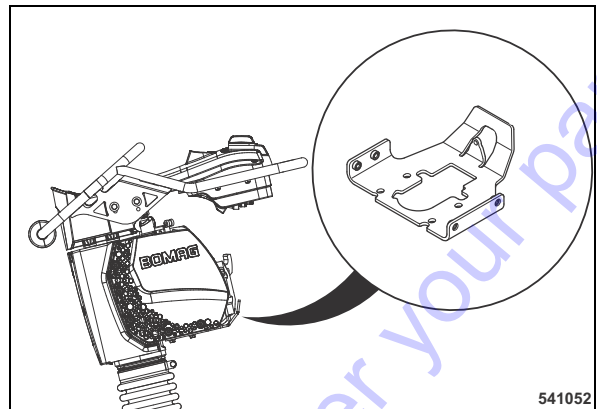

Fig. 51
- Remove the top engine cover (Fig. 51).